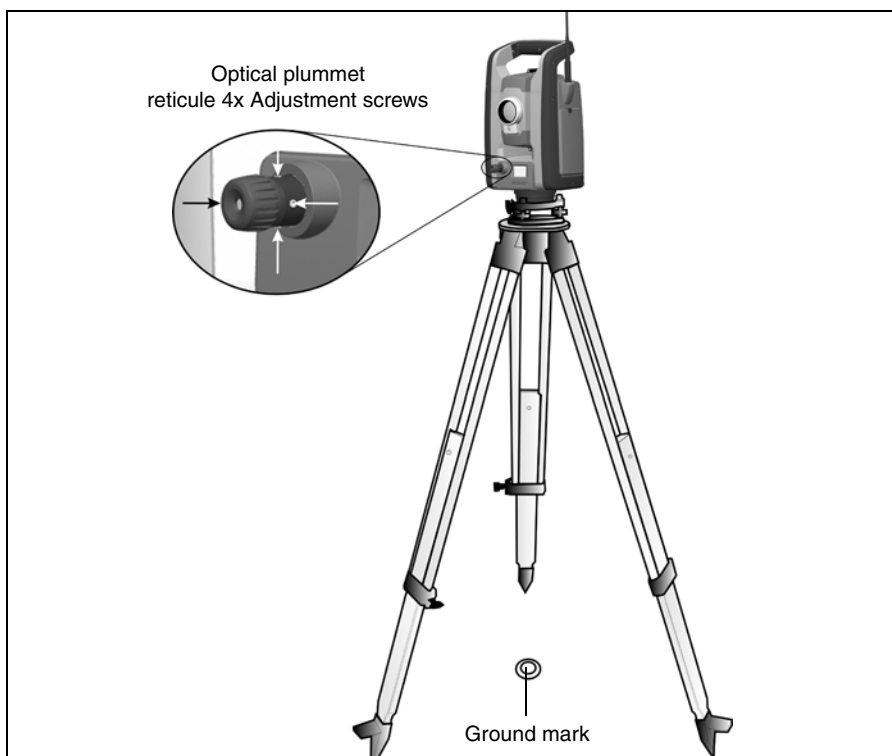

Figure 4.41 Optical plummet adjustment
1. Set up the instrument and level it over a ground mark so that the tripod height is 1.5 m (± 0.1 m) (4.920 ft. (± 0.328 ft.)). Figure 4.41